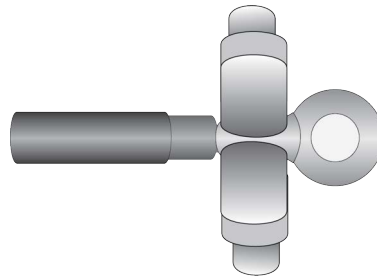

Figure 48. Crimping the Ring Terminal Lug
4. Crimp the ring terminal lug with a wire crimping tool to secure it on the grounding wire. Refer to Figure 48.